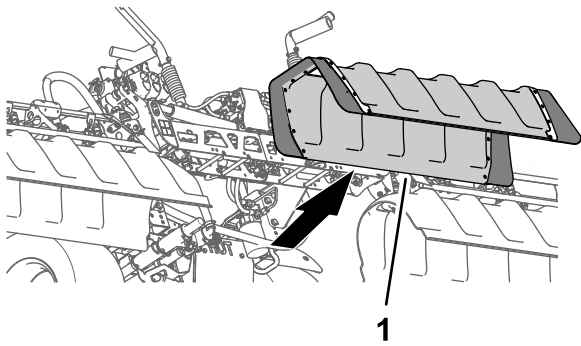

Figure 34
2. Remove the center-section cover from the machine (Figure 34).